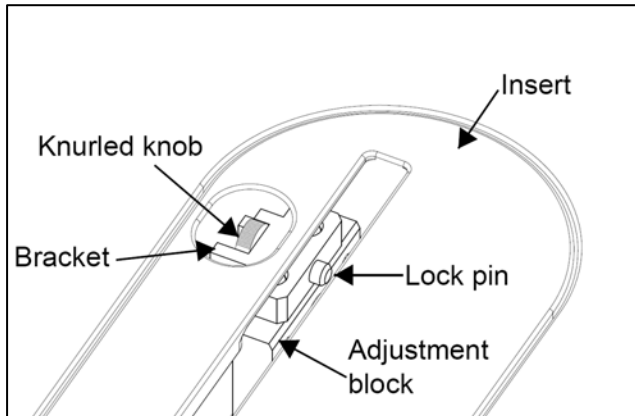

Fig. 16
1. Slide the knurled knob out (refer to **Fig. 16**) and rotate it forward so it engages the upper bracket.